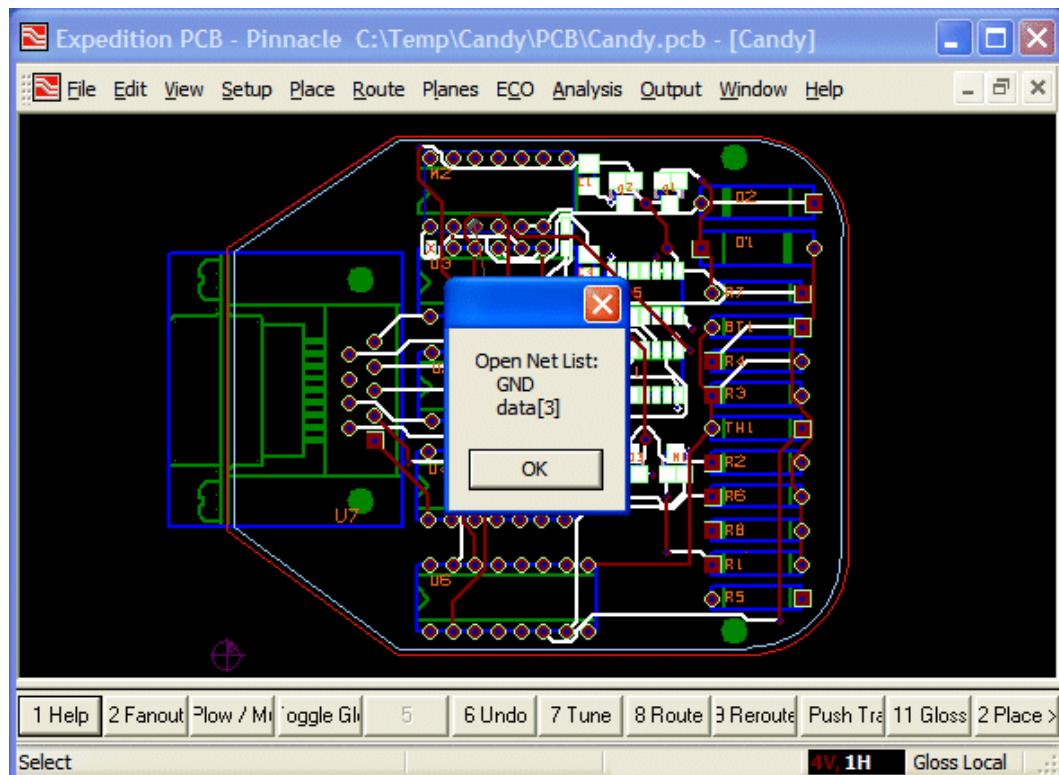

Figure 12-1. Running the *TraverseNets.vbs* script.
- 3) Drag the *TraverseNets.vbs* script and drop it on top of the layout design document. Observe the result as illustrated in Figure 12-1 (the actual opens reported will depend on the changes you make to your design).